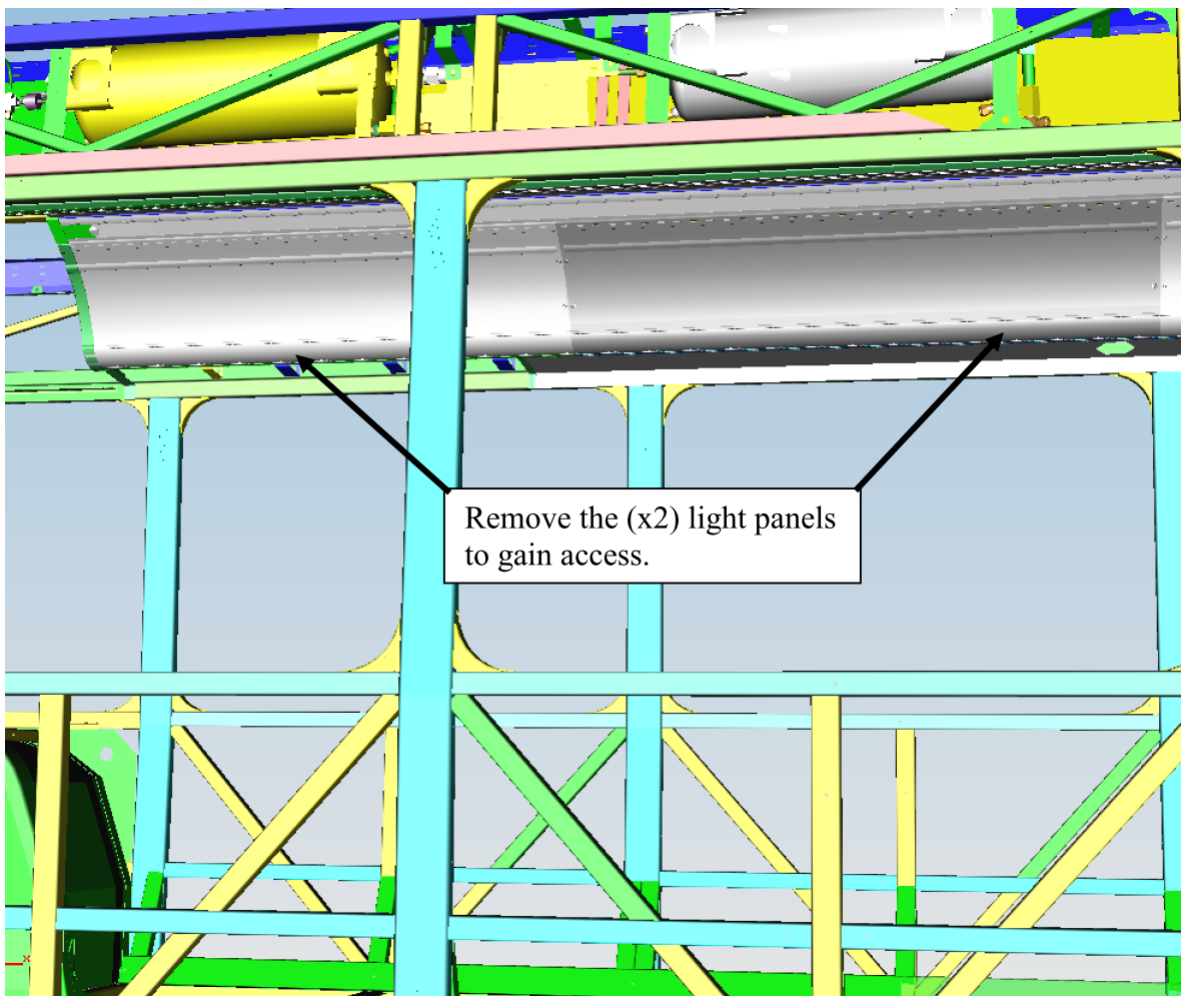

FIGURE 1: SHOWN LOCATION ON CURBSIDE TO REMOVE
2. On the interior of the bus, locate the first 2 light banks on the curbside front of the bus, directly behind the curbside luggage rack. Remove the first (x2) light banks to gain access to the air accessory tank. **Note:** If the light panel has hardware on the bottom side, remove and set aside to re-install later. **Refer to Figure 1.**